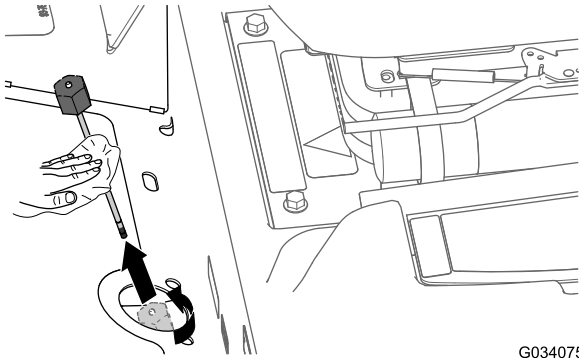

Figure 83
2. Loosen dipstick cap (Figure 83) and remove the dipstick from transaxle filler tube and wipe the dipstick with a clean rag.